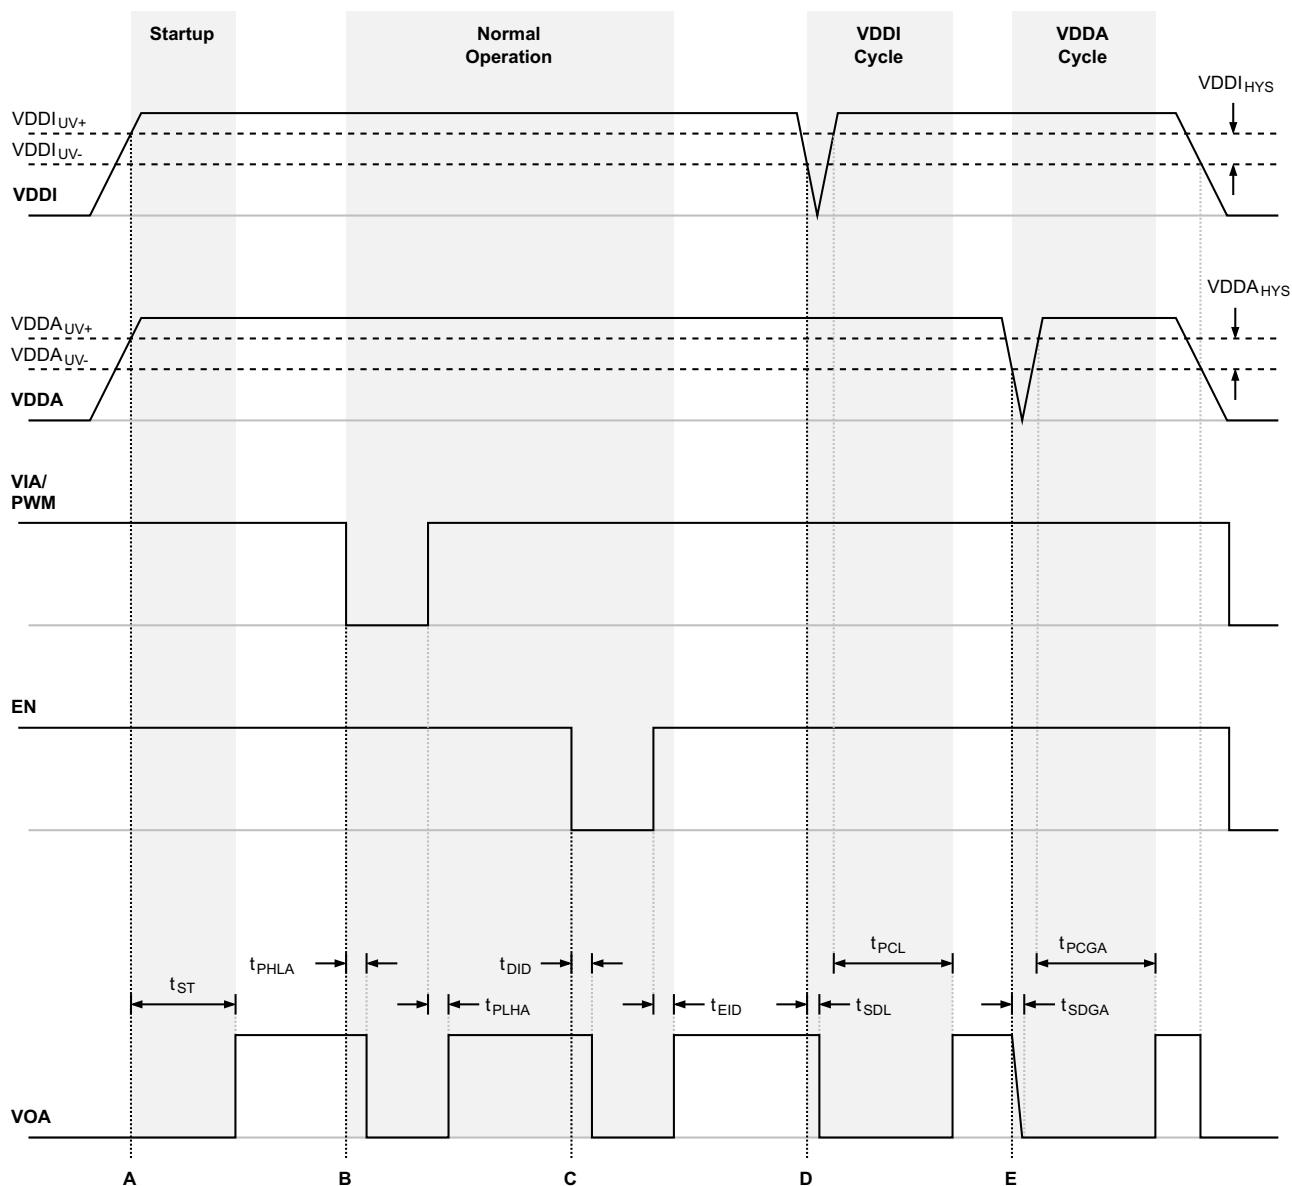

Figure 13. Gate Driver Timing Behavior
For devices with an enable (EN) input, when the EN input is driven low, it unconditionally drives VOA and VOB low regardless of the states of VIA and VIB. Device operation terminates within t_{DID} after EN falls below V_{IL} and resumes within t_{EID} after EN rises above V_{IH} . For devices with a disable (DIS) input, when the DIS input is brought high, it unconditionally drives VOA and VOB low regardless of the states of VIA and VIB. Device operation terminates within t_{DID} after DIS rises above V_{IH} and resumes within t_{EID} after DIS falls below V_{IL} . See Figure 13, “Gate Driver Timing Behavior,” on page 11 for more details. The EN and DIS inputs have no effect if VDDI is below its UVLO level (i.e., VOA, VOB remain low).